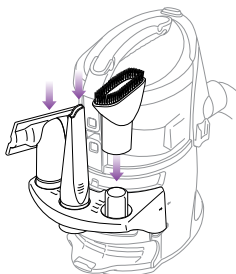

Fig. 4
- 3 Insert the crevice tool, dusting brush, upholstery brush or power brush into the openings on the tool caddy. (**fig. 4**)